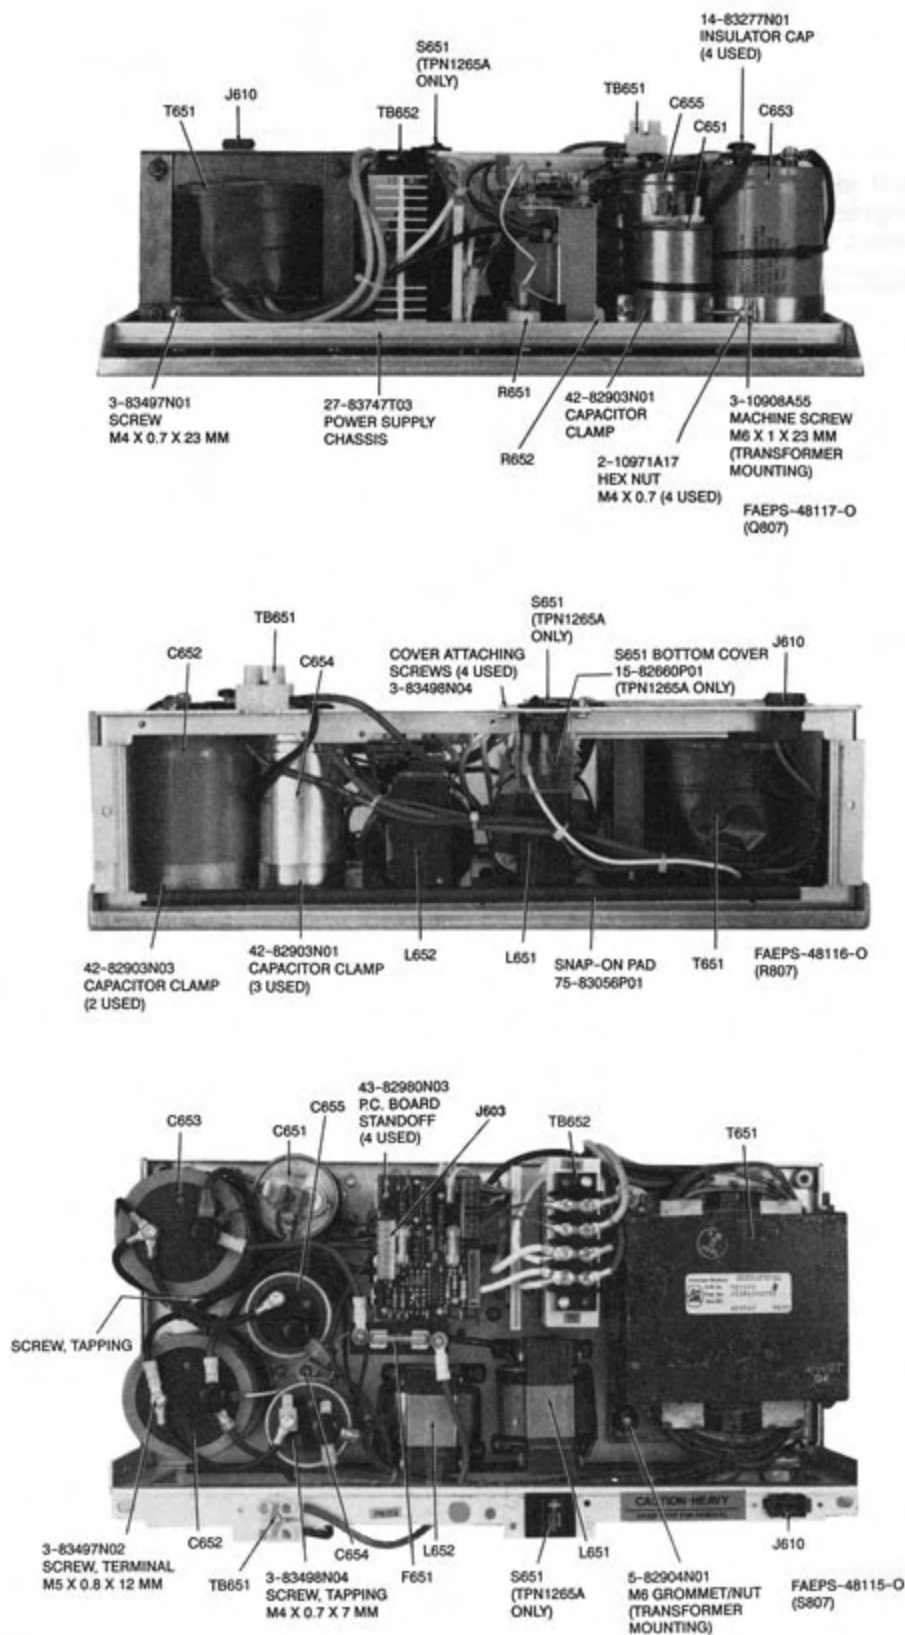

Figure 2. Mechanical Parts Location Photographs
Step 2. Refer to Figure 2 for component locations. Ensure that the switch (S651) on the power supply chassis is set to correspond with the primary power source voltage.
Step 2. Refer to Figure 2 for component locations. Connect the female plug of the supplied three-wire ac line cord (P604) to the main ac power connector (J604) on the junction box.